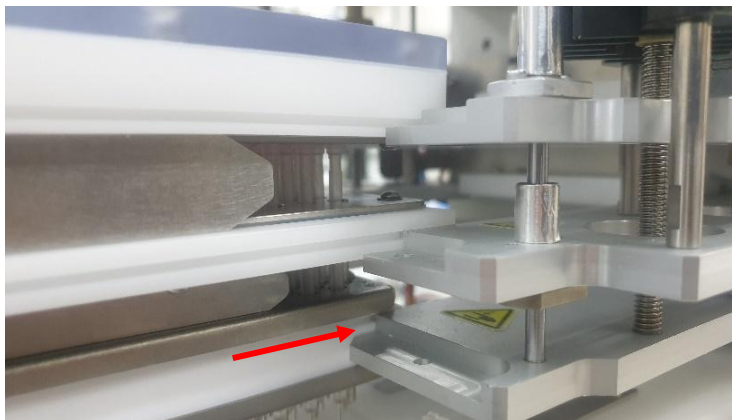

Figure 3-8: Align Fluidic Head to Machine (step 2)
9. Followed by the bottom block (Figure 3-8 red arrow).